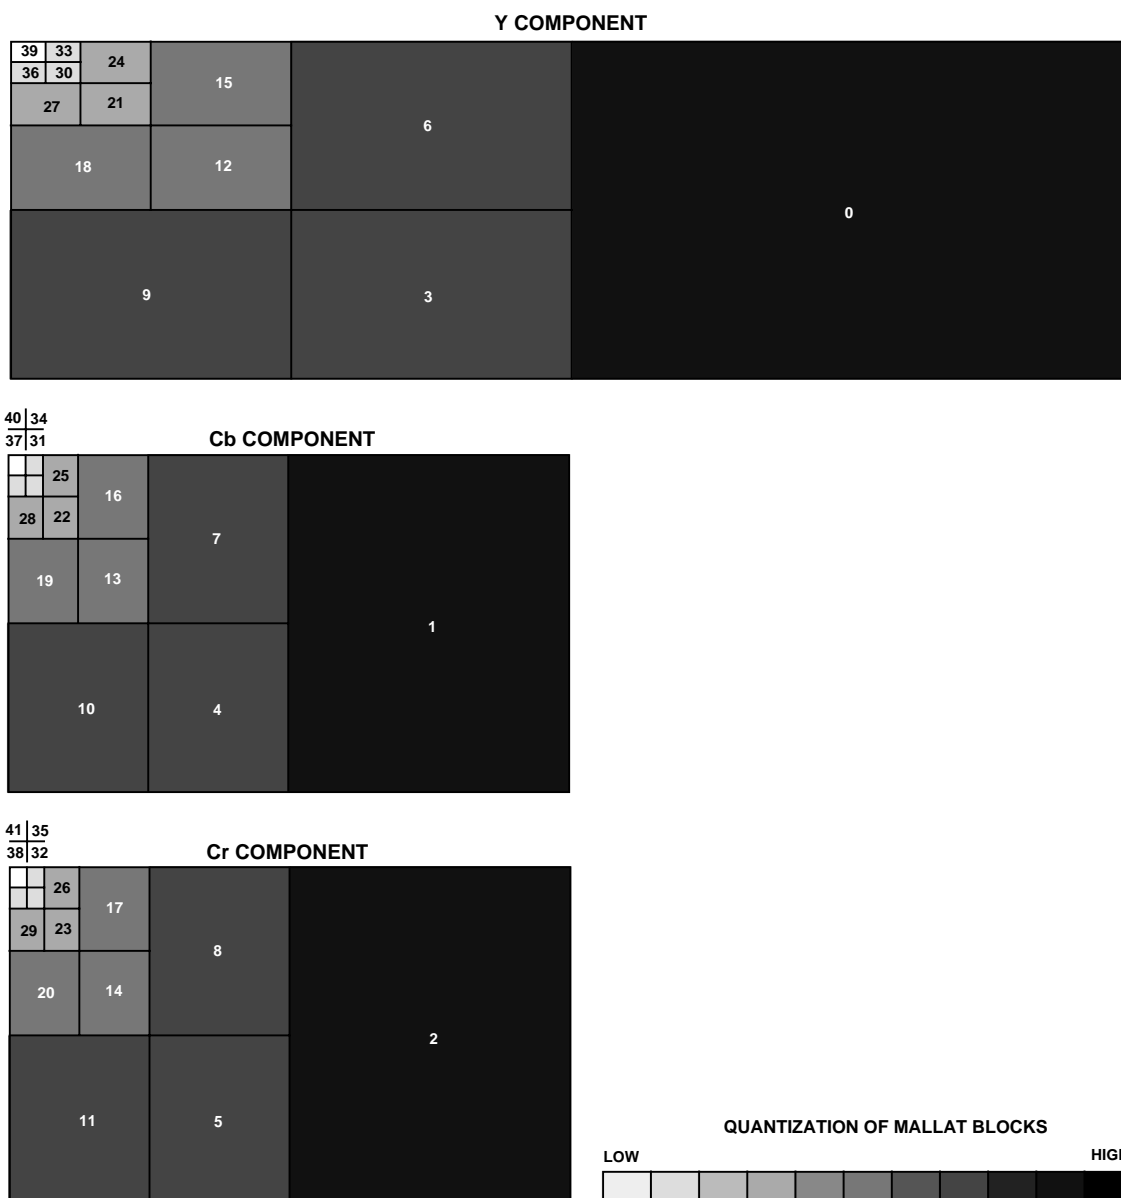

Figure 8. Typical Quantization of Mallat Data Blocks (Graphed)
Figure 8 shows how a typical quantization pattern applies over Mallat block data. The high frequency blocks receive much larger quantization (appear darker) than the low frequency blocks (appear lighter). Looking at this figure, one sees some key point concerning quantization: (1) quantization relates directly to frequency in Mallat block data and (2) levels of quantization range widely from high to low frequency block. (Note that the fill is based on a log formula.) The relation between actual ADV601 bin width factors and the Mallat block fill pattern in Figure 8 appears in Table II.
¹The Mallat block numbers, Bin Width factors, and Reciprocal Bin Width factors in Table II correspond to the shading per-cent fill) of Mallat blocks in Figure 8.